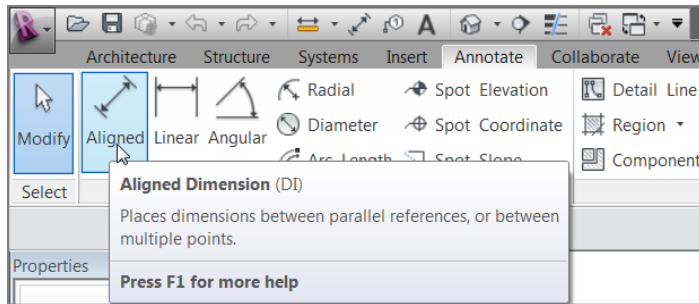

FIGURE 5.1: Starting the Aligned Dimension command from the Annotate tab
3. On the Annotate tab, click the Aligned button, as shown in Figure 5.1.